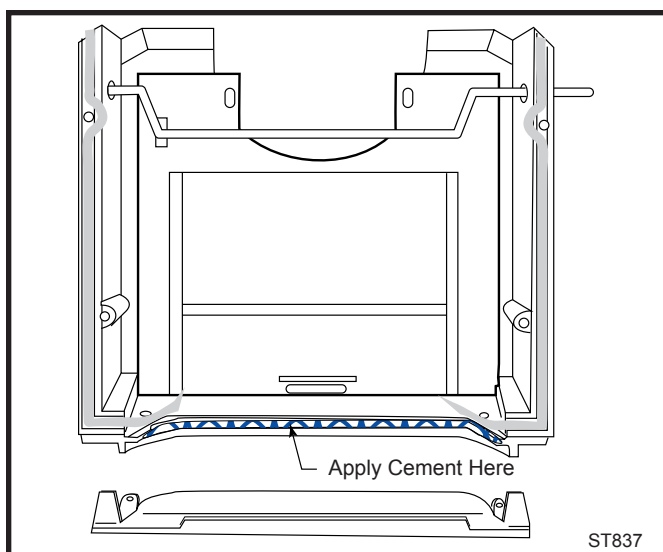

Fig. 4 Cement bottom plate.
7. Cement the bottom of the new stove back as indicated in Figure 4. Place the old package support plate into position in the stove back.